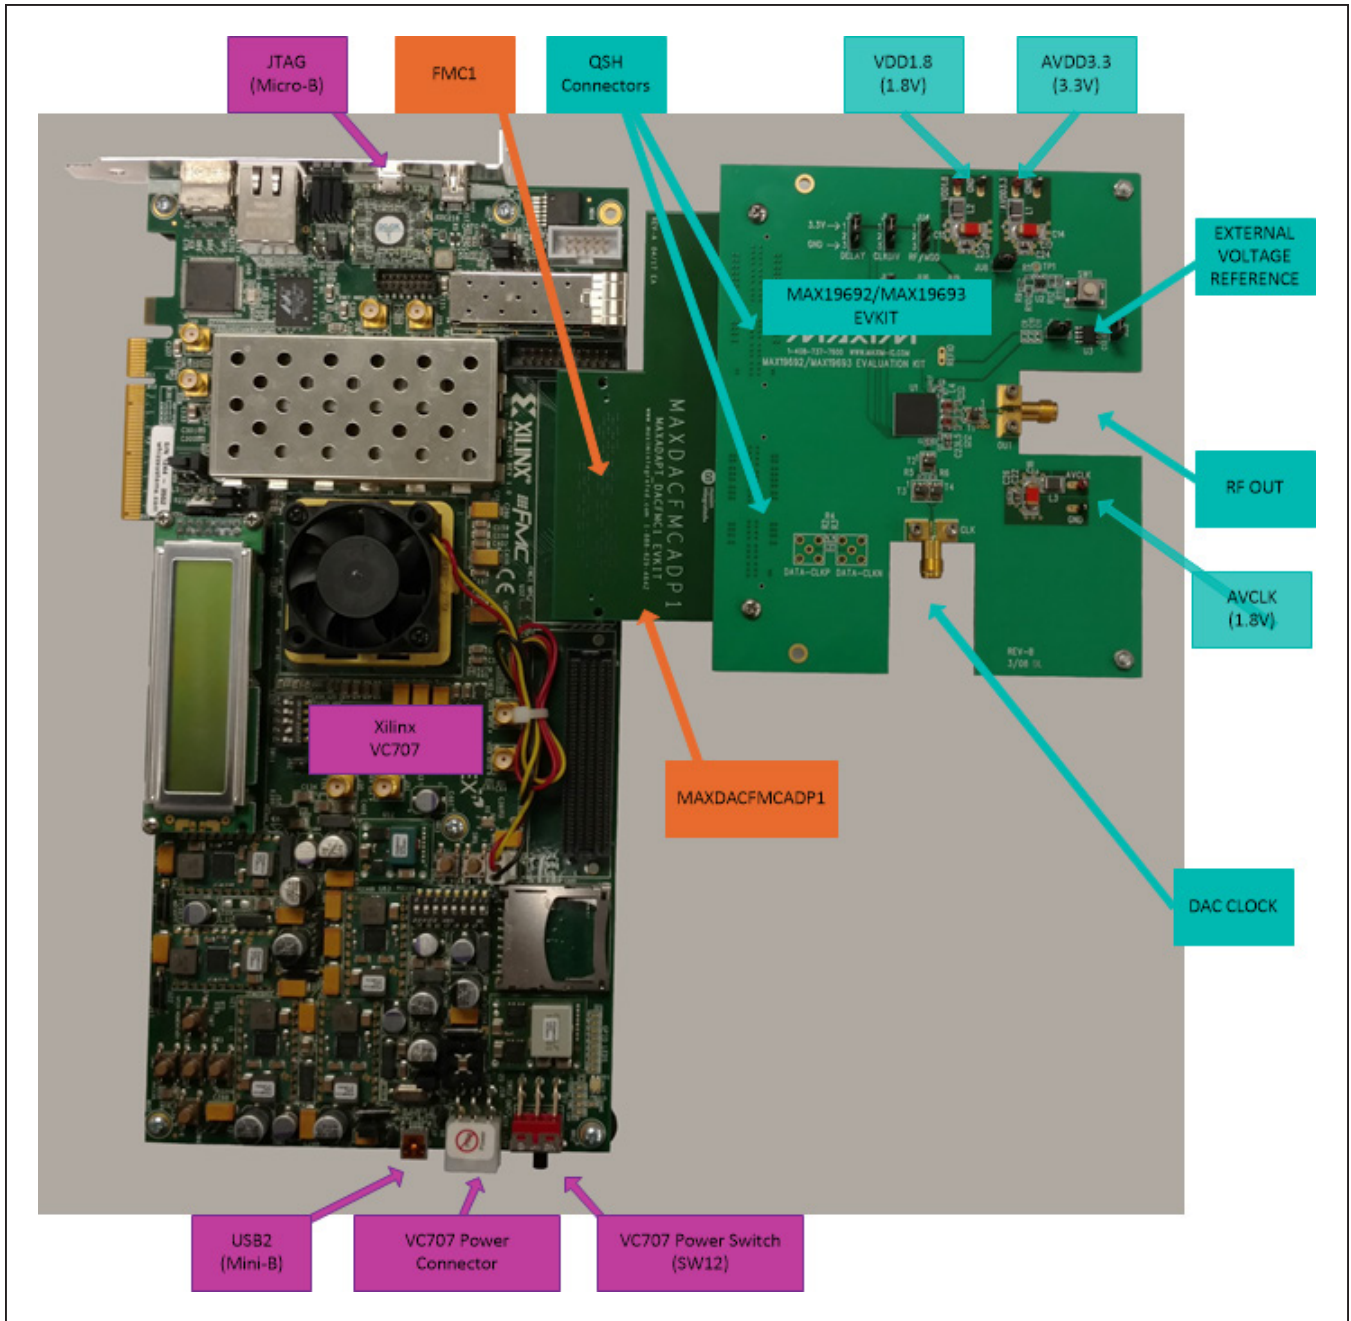

Figure 1. MAX19692/MAX19693 EV Kit and MUXDAC Data Source Test Setup
- d. Connect the MAX19692/MAX19693 EV kit board to the VC707 board, HPC1 as shown in Figure 1.